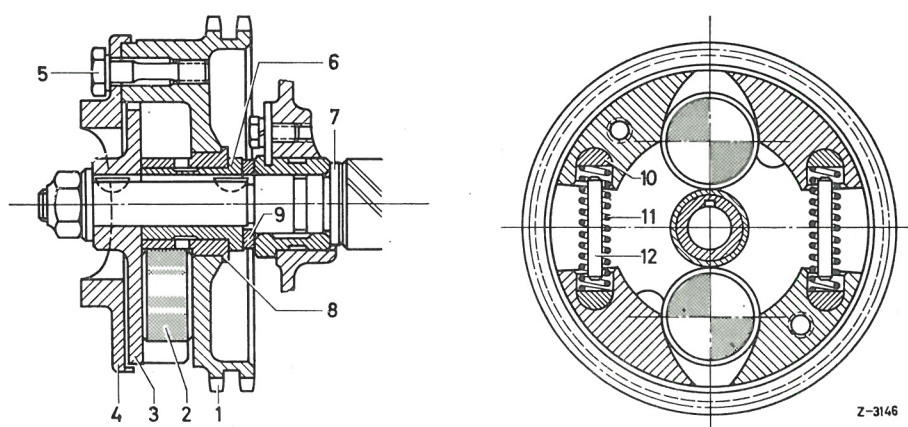

Fig. 07-47/1
The drive flange features a cam profile (4) which operates the pump; the flange is fitted to the sprocket (1), the so-called primary element, with 2 stretch screws (5) (Fig. 07-47/1).